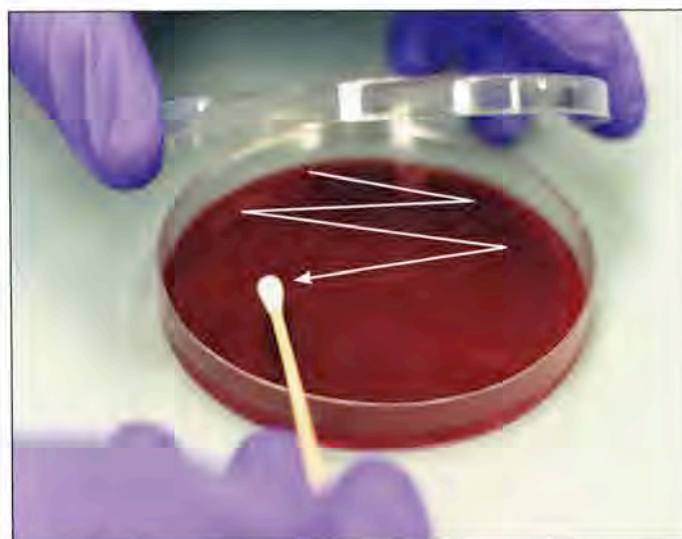

FIGURE 4.6 Zigzag (Continuous) Inoculation with a Swab •
3. **Inoculate the Agar:** Lightly drag the cotton swab across the agar surface in a zigzag pattern, rolling it as you do so. Be careful not to cut the agar surface (Fig. 4.6).